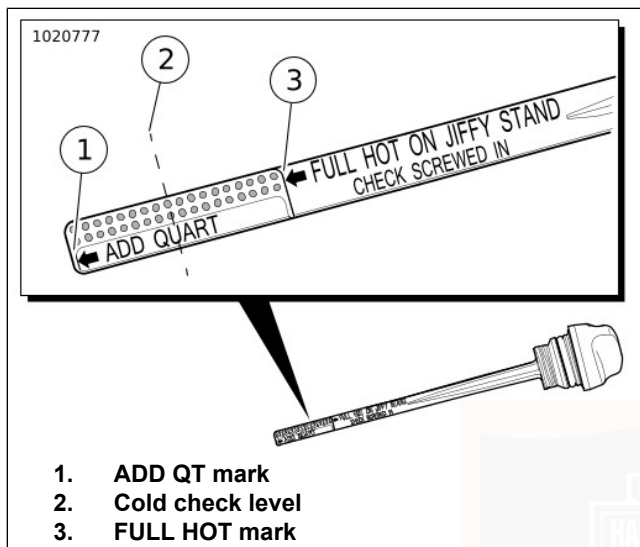

Figure 52. Engine Oil Dipstick
- e. See Figure 52. Check oil level. The correct cold oil level is midway (2) between the ADD QT (1) and FULL HOT (3) marks on the dipstick.
5. Check oil level. Add only enough to bring level midway between the ADD QT (1) and FULL HOT (3).
- e. See Figure 52. Check oil level. Oil level must register between the ADD QT and FULL HOT marks on the dipstick.